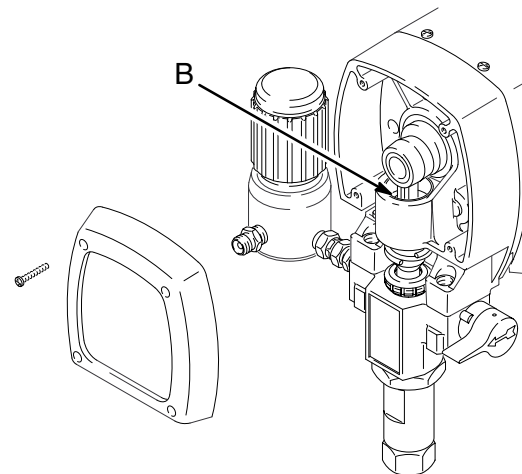

Fig. 10
5. **Lubricate the bearing housing** after every 100 hours of operation. Remove the front cover. Apply several drops of SAE 10 non-detergent oil in the bearing housing cavity (B). See Fig. 10.